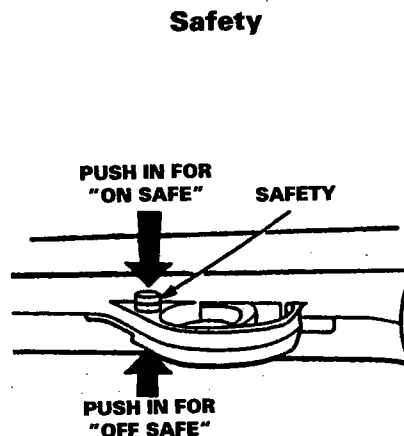

Fig. 1
- A. To put the rifle "On Safe," locate the safety in front of the trigger. Push the safety from the left side all the way in (Fig. 1). The safety is not on unless it is pushed all the way in and the red line around the safety is not showing. The rifle will not fire when "on safe."